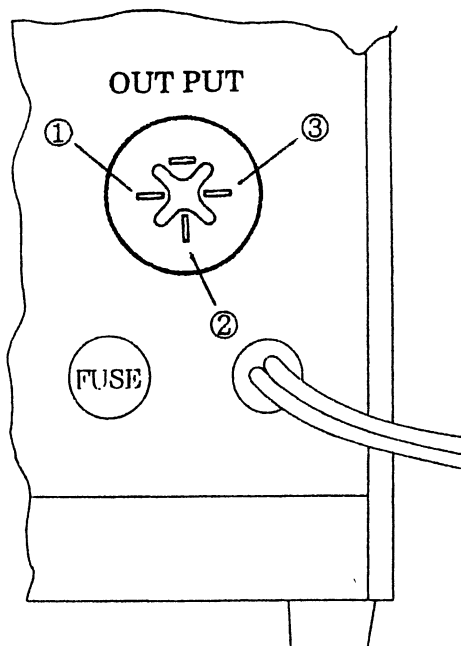
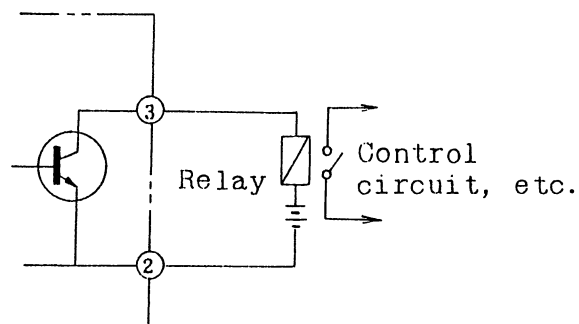

Fig. 5 Rear panel output terminal diagram
Fig. 6 Example of output terminal application
- 4) While the "GO" lamp is lighted, the section between ① and ② of the "OUTPUT" terminal becomes continuity condition. On the contrary, while the "NO" lamp is lighted, the section between ② and ③ becomes continuity condition. This output can be used at the open collector of transistors within 24V DC and 300mA. Its output terminal diagram is shown in Fig. 5 and application example is shown in Fig. 6.